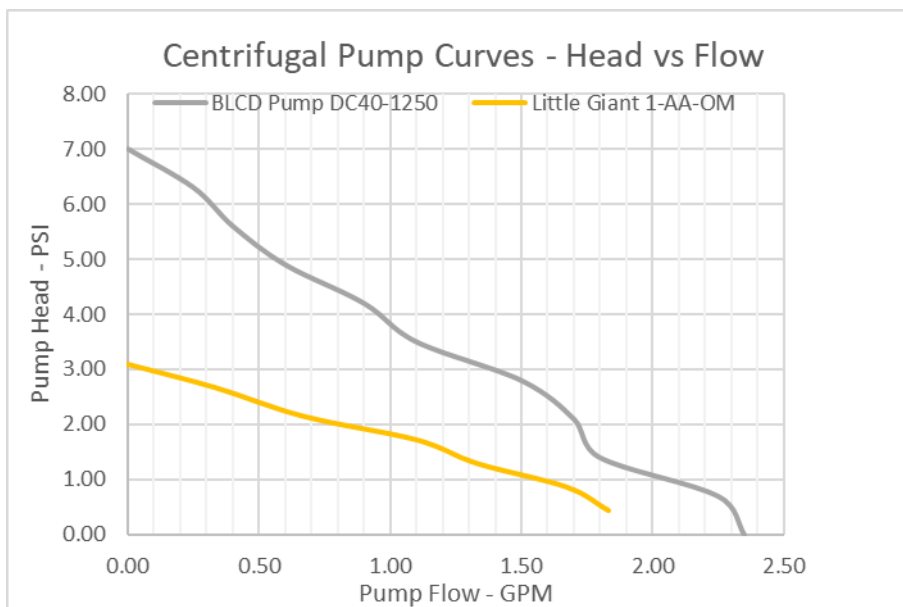

Figure 62 – Centrifugal Pump Curves
- XIV.16.1.c. The representative pump curves for these two centrifugal pumps are shown in **Figure 62**.